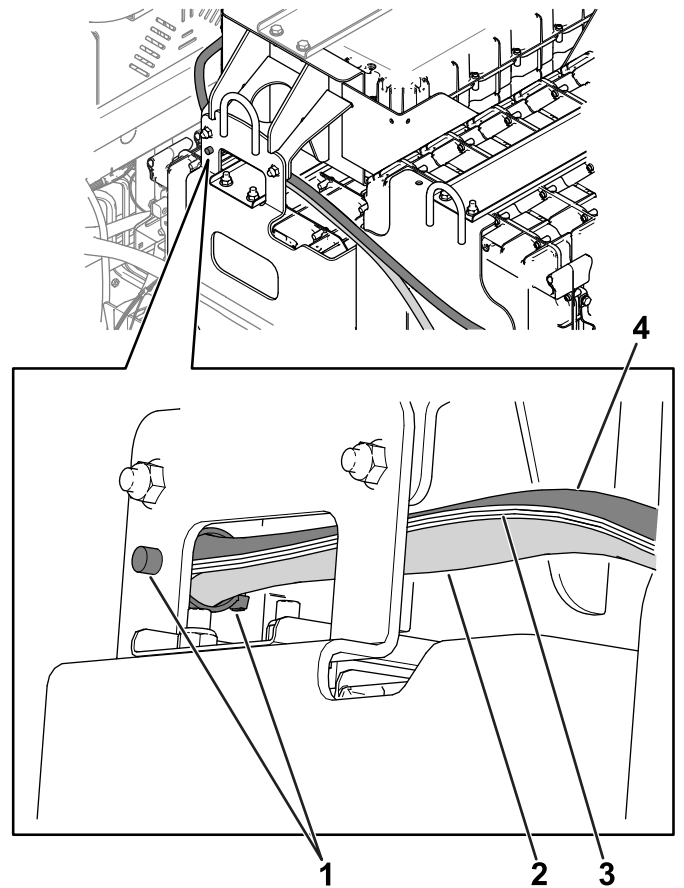

Figure 10
6. Use a push fastener to secure the battery cables and data-interface wire harness to the battery tray (Figure 10).